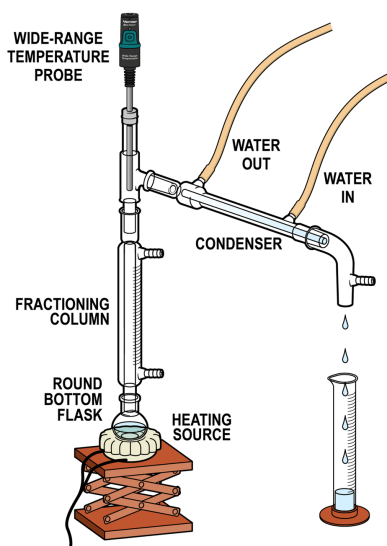

Figure 1
3. Set up the fractional distillation apparatus as shown in Figure 1. Attach the flask prepared in Step 2. Use a 10 mL graduated cylinder, cooled in an ice-water bath, as the receiver.